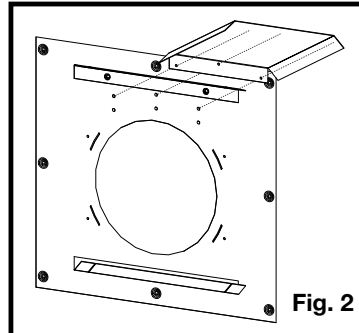

Fig. 2
2. Install one vent shield onto the standoff on one side of the firestop spacer (**Fig. 2**).